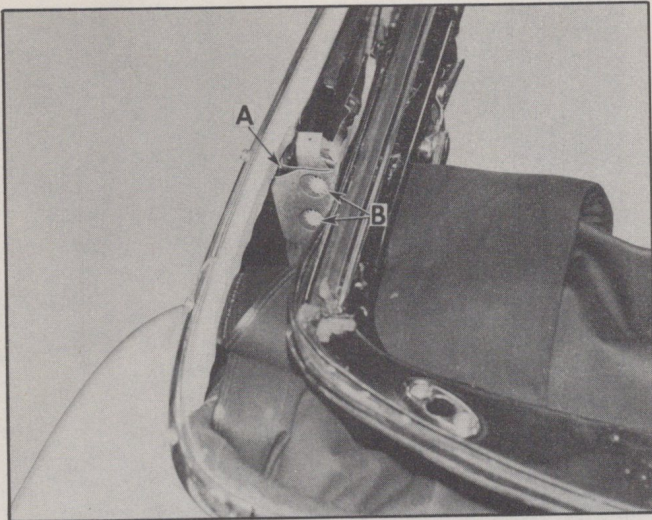

Fig. 4 Sealing Rear Quarter Window Area
2. Completely lower the top, and remove the molding cap at the rear of the quarter window finishing molding. Remove the imitation leather trim foundation panel which covers screw holes "B" in Fig. 4.
3. Press 3M Body Caulking Compound into the opening between the two (2) metal panels shown at "A" (Fig. 4). This opening extends to the outer panel and must be completely sealed with caulking compound.
4. Press 3M Body Caulking Compound into the two (2) rear quarter window guide channel adjustment screw openings shown at "B" (Fig. 4).